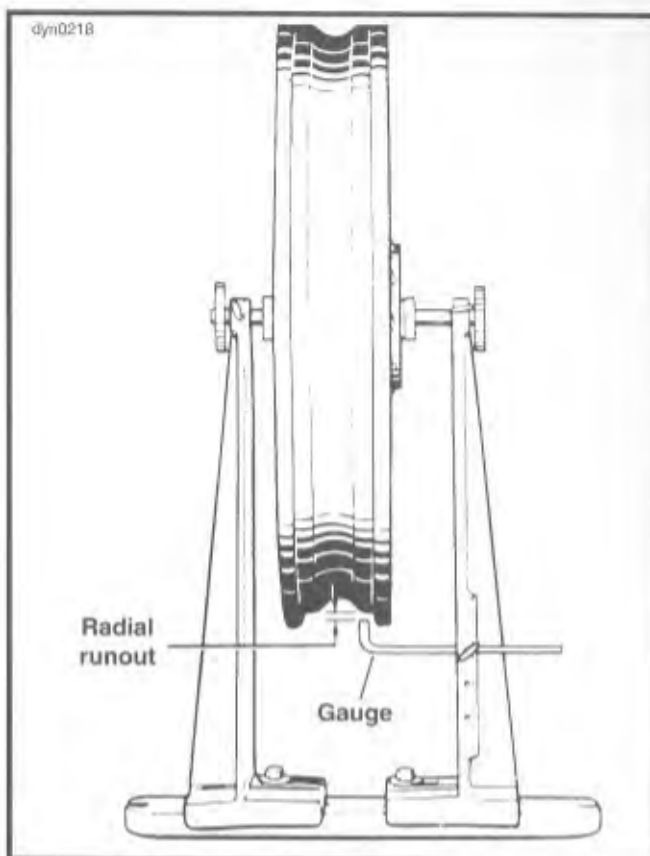

Figure 2-32. Checking Cast Rim Radial Runout
2. See Figure 2-32. Check for radial runout as shown. Replace the wheel if runout exceeds 0.030 in. (0.76 mm).